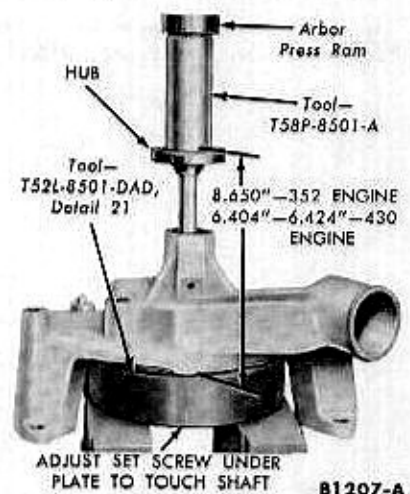

FIG. 9—Hub Installation
6. Tighten the set screw in the bottom of the fixture plate until the screw touches the end of the shaft. Position the fan hub over the shaft and press it into place, holding the specified distance from the housing mounting face to the front face of the hub (Fig. 9).